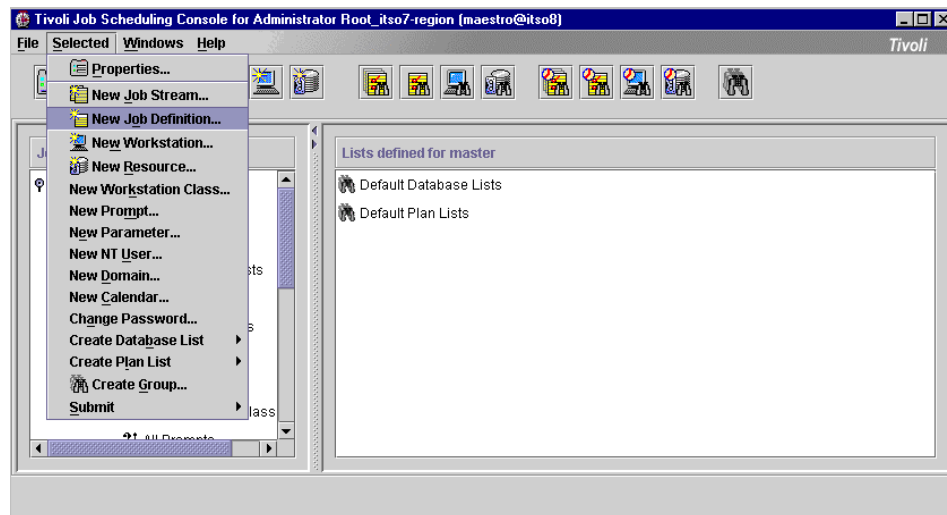

Figure 100. Defining a new job
2. From the Selected menu, select the **New Job Definition...** command as shown in Figure 100.